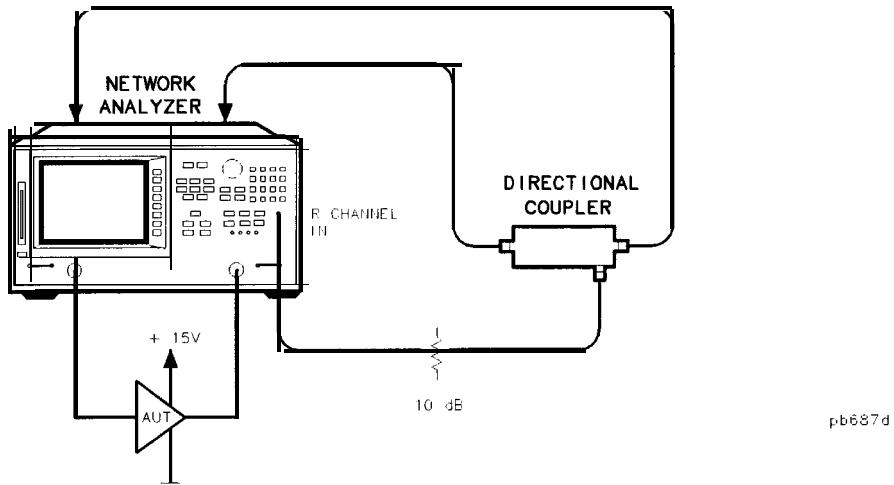

Figure 2-55. High Power **Test** Setup (Step 3)
25. Make the connections as shown in Figure 2-55. Switch on the DUT and measure the **S₂₁** gain of the amplifier under test to confirm the proper operation of the measurement test set up.